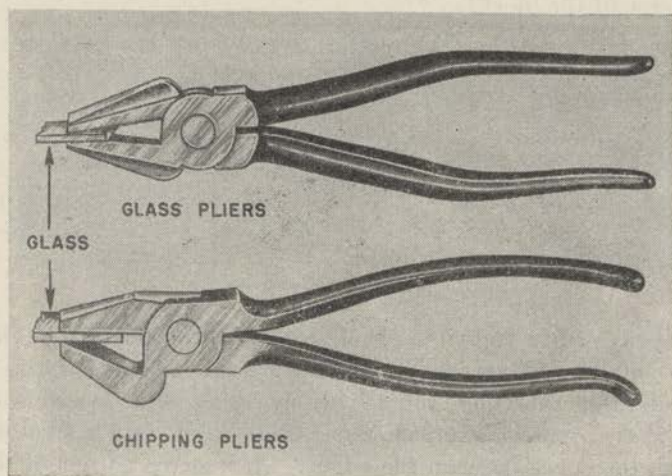

FIGURE 133.—Glass pliers.
d. Cracking.—(1) Immediately after cuts have been made, they must be cracked. If one waits more than 1 or 2 minutes, the cut will "heal," or relieve itself of the internal stresses, and although its appearance will be unchanged, it will no longer guide the crack.
(2) Slide the glass to the edge of the table until the waste piece overhangs. Carefully press on a corner of the waste until the crack starts. Follow along, applying pressure behind the crack as it travels along the cut, until it reaches the other edge. The lubricant applied for cutting will run into the crack and make it readily visible. When a corner is reached, tap the waste with the cutter or pliers to run the cut. Do not apply more than enough pressure to make the crack travel along, or the crack will not follow the cut. Do not try to crack the whole cut at once by pressing in the middle. Cracking cannot be rushed.
(3) If the waste strip is less than 1 inch wide, glass pliers (fig. 133) will be needed to press the waste down away from the cut. Take particular care to run the crack completely if the waste is narrow.
(4) Glass pliers commonly used in Army work have wide, flat jaws which are parallel when opened about $\frac{1}{2}$ inch. They grip the glass as shown in figure 133, firmly but without crushing it. They are made in a number of sizes and styles, some of which have the jaws at right angles to the handles. Do not confuse them with chipping pliers (fig. 133) which are not used in safety glass work. Chipping pliers are distinguished by jaws that are flat but not parallel, which by exerting a controlled crushing and bending force, can be used to chip away small pieces. In safety glass the center plastic makes chipping impossible.
(5) It is best to crack all cuts on one side of a safety glass block, then repeat the process on the reverse side exactly opposite those